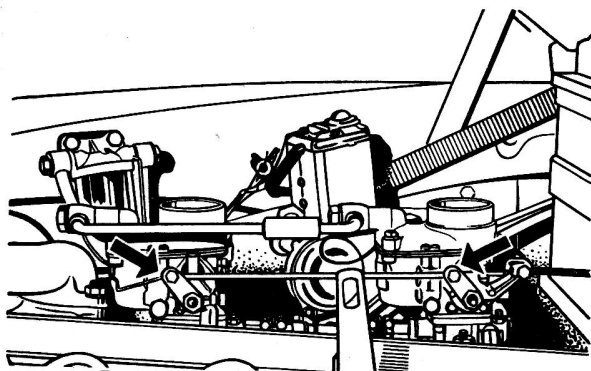

Fig.3.10. Connection of mixture control wire
- 11 To refit the mixture control, ensure that the mixture level in the car is set at "RUN" and that the control levers on the carburettors are in the fully forward position. Thread the control wire into position and remember to replace the distance tube between the two choke levers (see Fig.3.10).